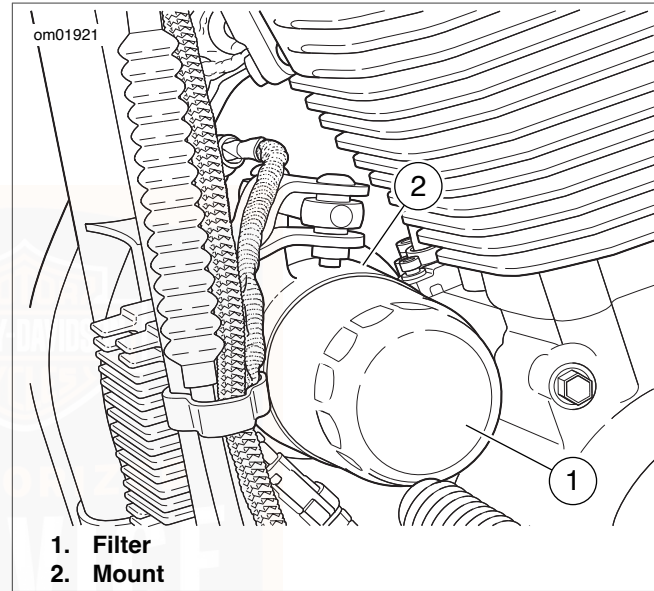

Figure 42. Oil Filter
See Figure 42. Turn filter (1) counterclockwise to remove from mount (2).